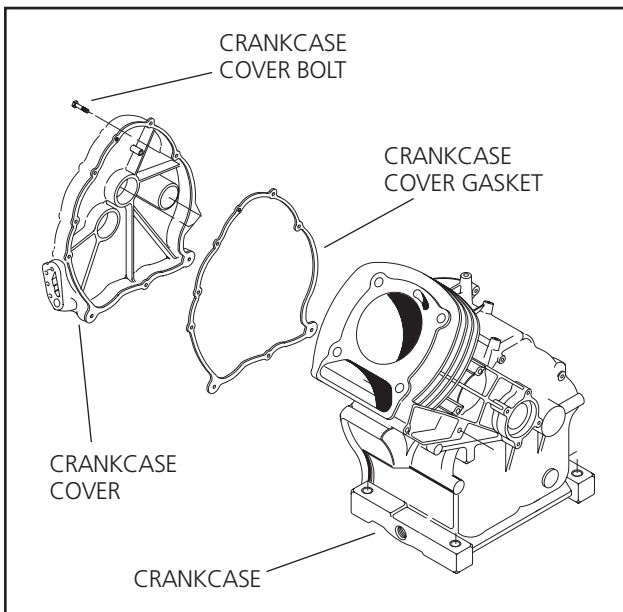

Figure 11.1 — Crankcase Cover Removal
4. Remove the crankcase cover (Figure 11.1). If necessary, tap lightly with a soft hammer on alternate sides of cover. Be aware that the oil pump rotors may drop out as the crankcase cover is removed.